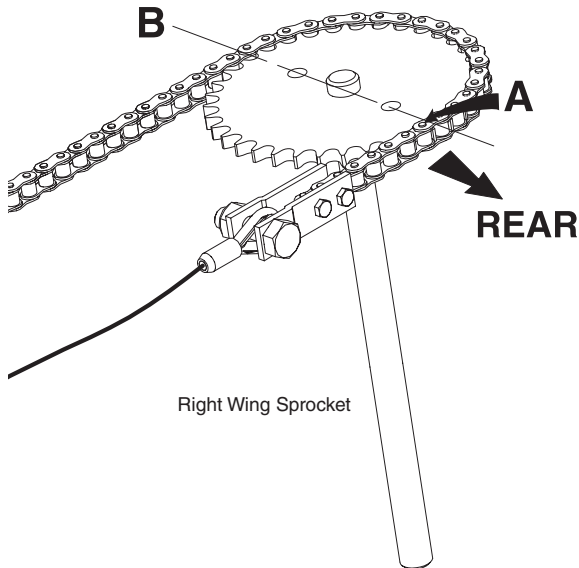

Fig. 12
1. With the boom unfolded (in the spraying position) while standing on the rear side of the boom, check to ensure that the 7th pin connection in the timing chain (on the 48' and 66' boom) (**A**) (Fig. 12) is aligned with the center line between the sprocket cap screws (**B**) (Fig. 12).